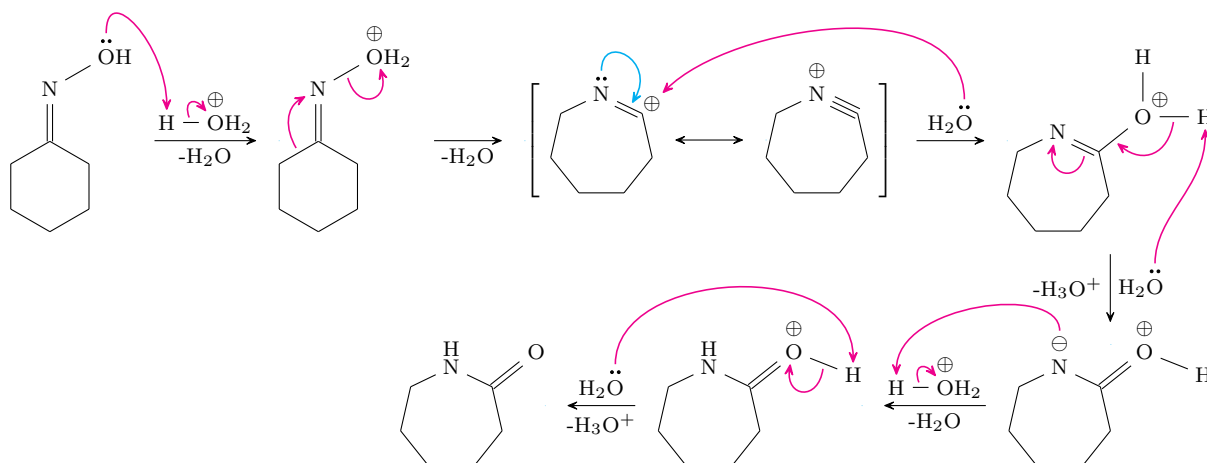

Figure 3.16: Beckmann rearrangement mechanism.
- Caprolactam (the end product in Figure 3.16) is made from cyclohexanone in quantities of millions of tons per year because it is a precursor to nylon, which is just caprolactam following a ring opening.